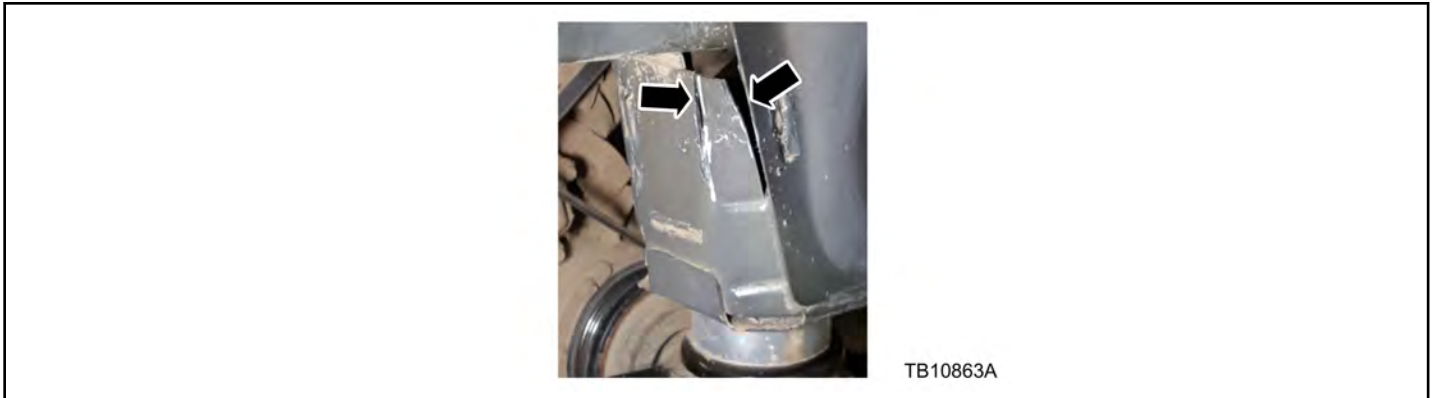

Figure 2 - Article 16-0021
6. Using an abrasive cut off wheel, cut the bracket sheet metal along the marked lines. (Figure 2)